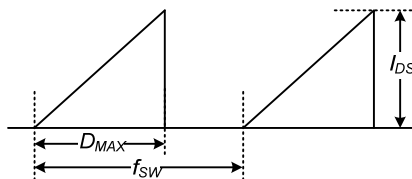

Figure 4. Repetitive Peak Switching Current
- Repetitive peak switching current when the inductive load is assumed: Limited by maximum duty ($D_{MAX}=0.74$) and junction temperature (see Figure 4.).